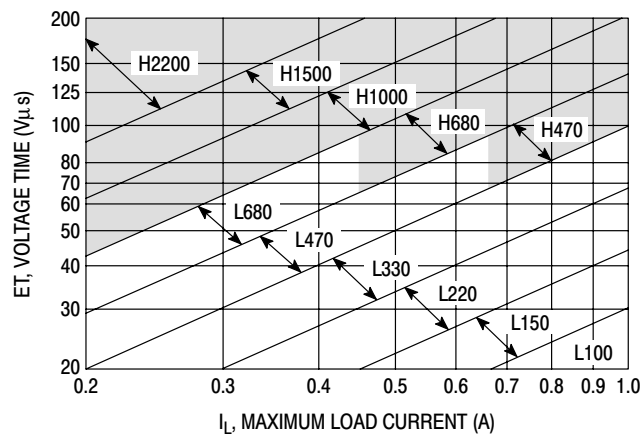

Figure 21. LM2575-Adj
4. Inductor Selection (L1) A. Use the following formula to calculate the inductor Volt x microsecond [V x μs] constant: $E \times T = (V_{in} - V_{out}) \frac{V_{out}}{V_{on}} \times \frac{10^6}{F[\text{Hz}]} \text{ [V x } \mu\text{s]}$ B. Match the calculated E x T value with the corresponding number on the vertical axis of the Inductor Value Selection Guide shown in Figure 21. This E x T constant is a measure of the energy handling capability of an inductor and is dependent upon the type of core, the core area, the number of turns, and the duty cycle. C. Next step is to identify the inductance region intersected by the E x T value and the maximum load current value on the horizontal axis shown in Figure 21. D. From the inductor code, identify the inductor value. Then select an appropriate inductor from the Table 1 or Table 2. The inductor chosen must be rated for a switching frequency of 52 kHz and for a current rating of $1.15 \times I_{load}$. The inductor current rating can also be determined by calculating the inductor peak current: $I_{p(max)} = I_{Load(max)} + \frac{(V_{in} - V_{out}) t_{on}}{2L}$ where t_{on} is the "on" time of the power switch and $t_{on} = \frac{V_{out}}{V_{in}} \times \frac{1}{f_{osc}}$ For additional information about the inductor, see the inductor section in the "External Components" section of this data sheet.	4. Inductor Selection (L1) A. Calculate E x T [V x μs] constant: $E \times T = (12 - 8.0) \times \frac{8.0}{12} \times \frac{1000}{52} = 51 \text{ [V x } \mu\text{s]}$ B. E x T = 51 [V x μs] C. $I_{Load(max)} = 1.0 \text{ A}$ Inductance Region = L220 D. Proper inductor value = 220 μH Choose the inductor from the Table 1 or Table 2.